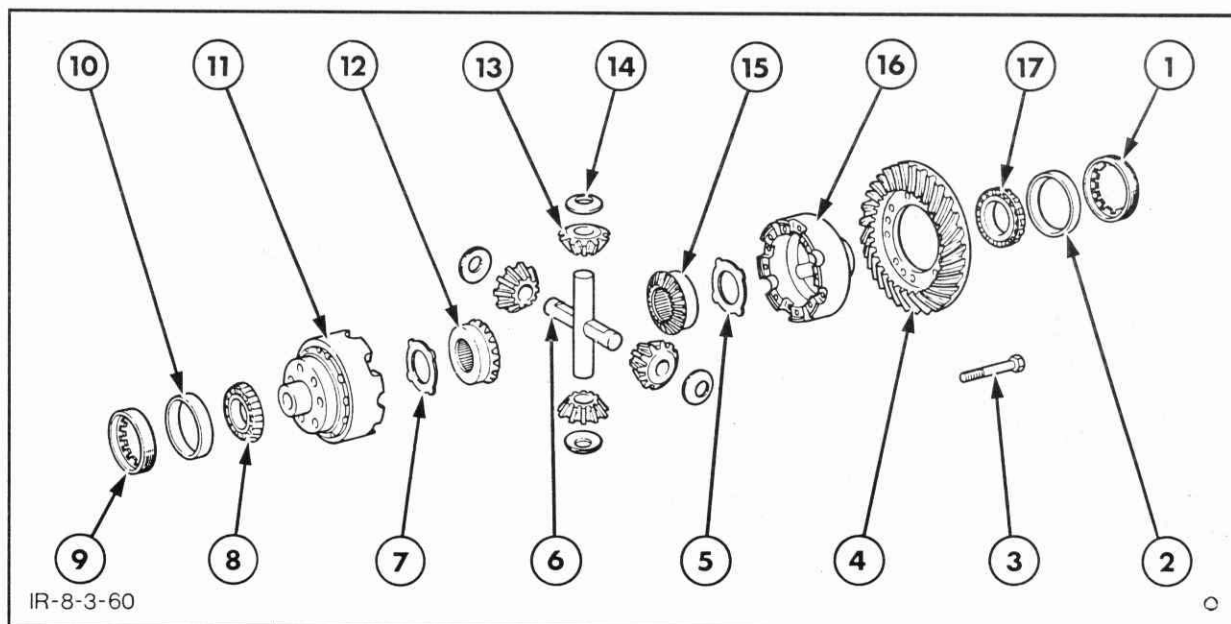

Figure 7-123
11. Remove the crown wheel and separate the two halves of the differential housing. Refer to Figure 7-123.